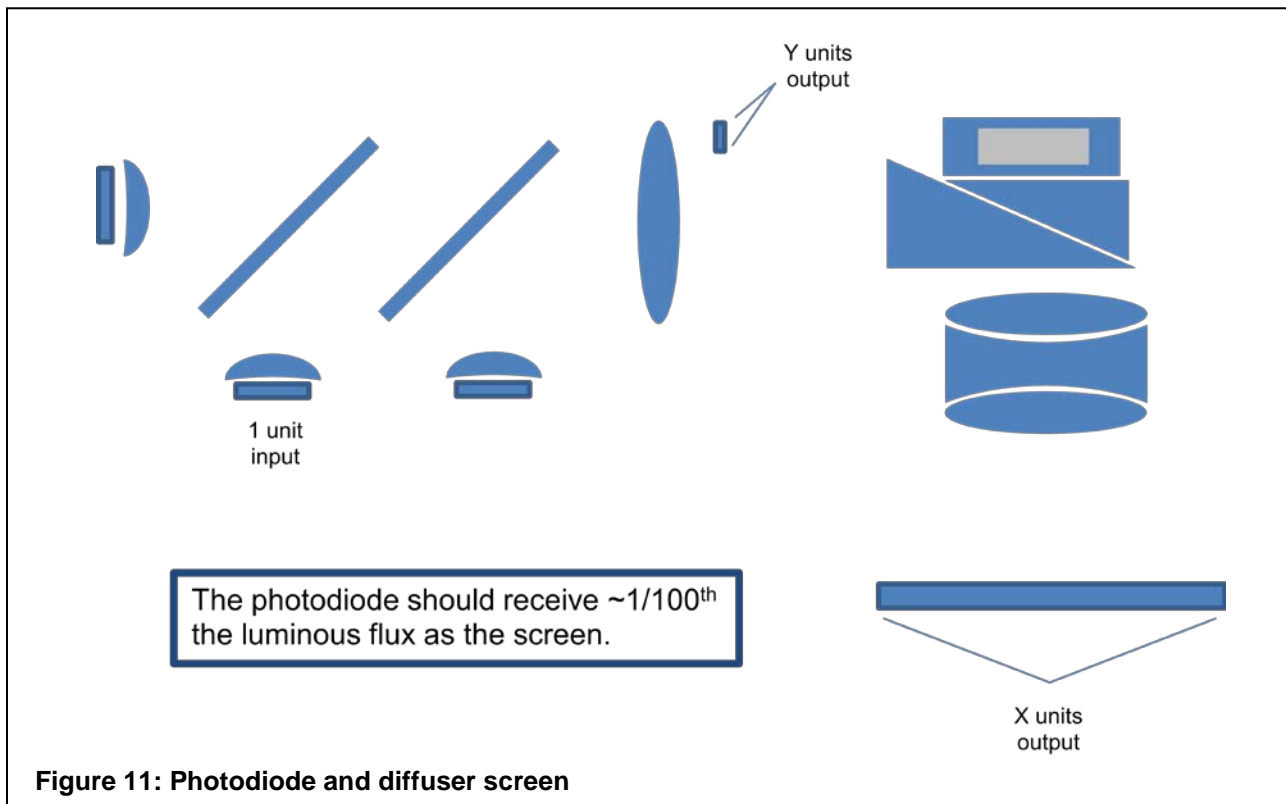

Figure 11: Photodiode and diffuser screen
- $J(\lambda)$ is the normalized emission spectrum of the LED at the location of the photodiode (Figure 11)
TI first measured the emission spectrum $J(\lambda)$ for each LED at the position of the photodiode, as shown in Figure 11. The spectra were captured using a BTS256e spectrometer. Note that these spectra are normalized.